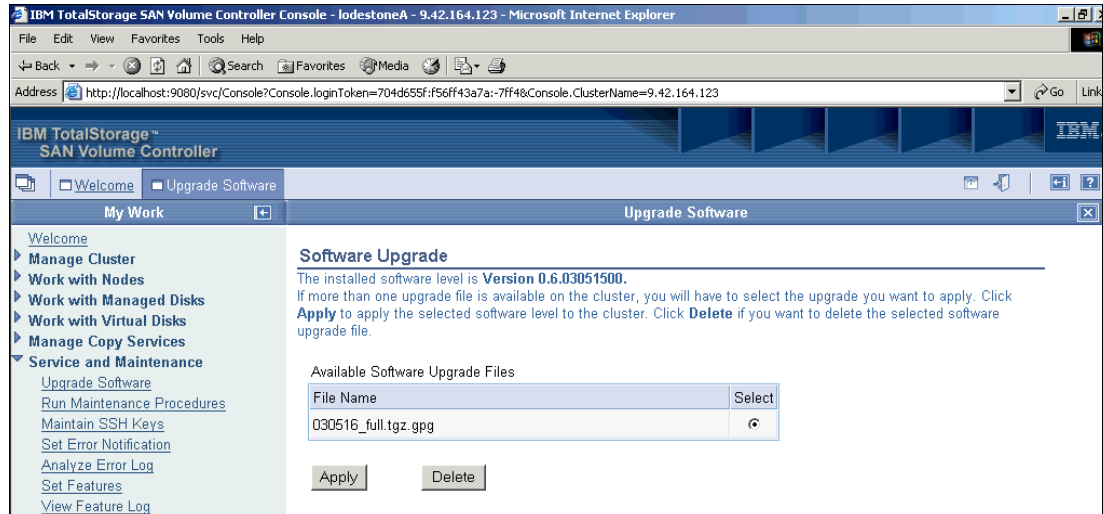

Figure 9-80 Software Upgrade
5. The Software Upgrade panel (Figure 9-80) lists the available software packages. Make sure the radio button next to the package you want to apply is selected. Click the **Apply** button.